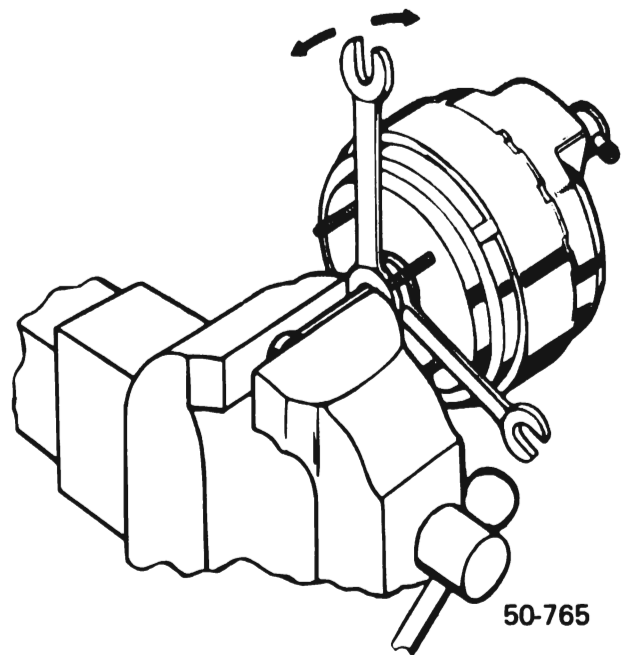

Figure 50-130 Removing Air Valve Rod
2. Remove two (2) master cylinder attaching nuts and lockwashers and remove master cylinder.
8. Install end of air valve rod in vise, leaving just enough clearance to position two (2) open end wrenches between vise and retainer on hub of rear plate.
9. Using the wrench nearest the vise as a pry, force the valve plunger grommet off from the ball end of the rod. Do not damage plastic hub or allow vacuum cylinder to fall to the floor. See Figures 50-130 and 50-131.